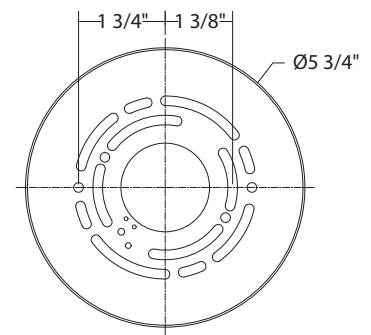

Fig.3 Driver Wires
**MOUNTING THE FIXTURE (Fig. 1 / Fig. 3)**
- b) Due to limited space within the canopy, shorten the cable as necessary to make the installation easier. Make sure to identify and label all the wiring properly before any trimming/shortening (Fig. 3).
**CONNECTING THE WIRES (Fig. 2 / Fig. 3 / Fig. 4)**
6. Connect the fixture, CCT switch, and driver's output wires to center cable as shown in Fig. 3, red to the white+, black to the black, blue to the black-, brown to the bare-, make sure that wire connectors(A) are secured.